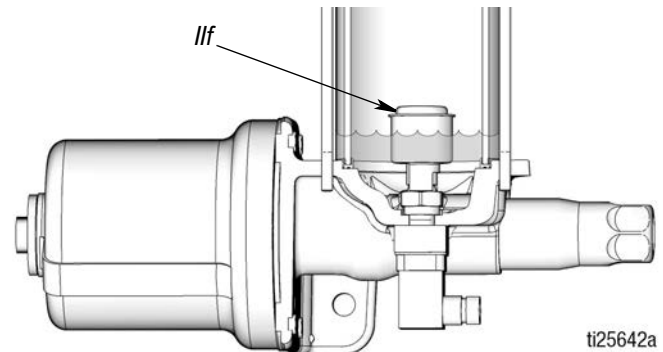

FIG. 10: Low level float in fully traveled down position
As oil is dispensed, the low level float begins to travel down. When the oil in the reservoir reaches low level, the fully traveled down float (shown in FIG. 10) opens the normally closed low level switch and a low level signal is sent to the lubricator controller (J).